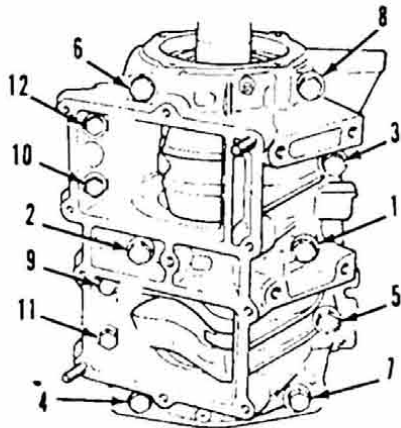
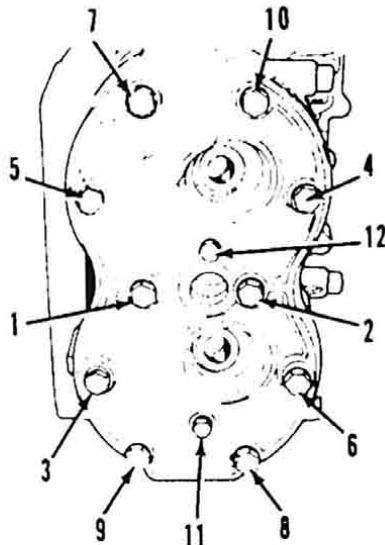
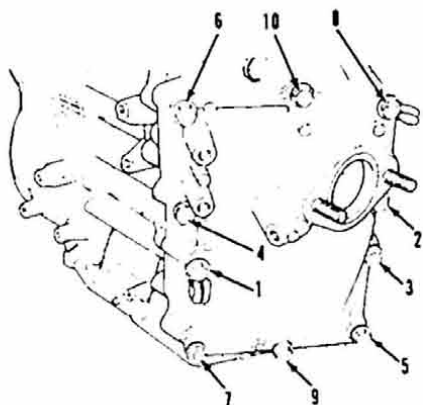
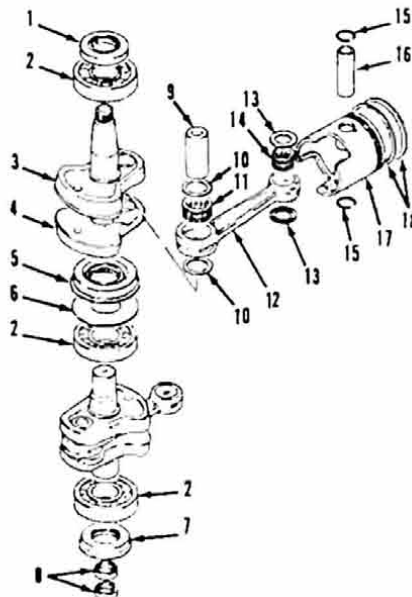

Fig. SZ11-9—Tighten crankcase screws in the sequence shown. Refer to CONDENSED SERVICE DATA for screw torques.
Fig. SZ11-10—Tighten cylinder head screws in sequence shown. Refer to CONDENSED SERVICE DATA for screw torques.
Fig. SZ11-11—Securely tighten intake manifold screws in sequence shown.
Fig. SZ11-12—Exploded view of piston and crankshaft assembly.
Lubricate crankpin bearings and cylinder walls with Suzuki engine oil or a suitable NMMA certified two-stroke engine oil. Install crankshaft assembly in crankcase. Make sure flange of lower oil seal (7—Fig. SZ11-12) and middle labyrinth seal (5) fits properly in crankcase grooves. Make sure bearing pins engage notches in crankcase. Spread a coat of Suzuki Bond No. 1215 or a suitable equivalent on the mating surfaces of the crankcase and the cylinder block. Position crankcase half on cylinder block and tighten the crankcase screws in the sequence shown in Fig. SZ11-9 to torques shown in CONDENSED SERVICE DATA. Tighten the cylinder head screws in the sequence shown in Fig. SZ11-10 to torques shown in CONDENSED SERVICE DATA. Tighten the intake manifold screws in the sequence shown in Fig. SZ11-11.